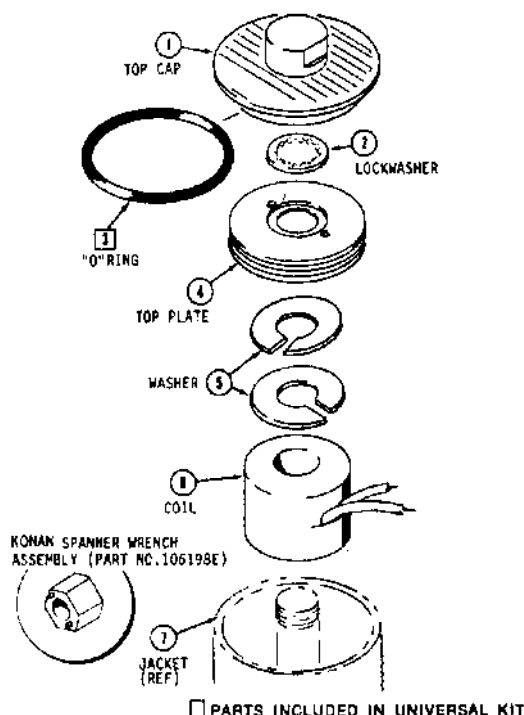

Fig. 3. Typical S212 Model "C" Explosion-proof Operator
**Explosion-proof Model "C"** (last digit of Serial Number). See Fig. 3.
See Fig. 2 for an exploded view of a typical S212 Model "B", and Fig. 3 for a typical S212 Model "C" Explosion-proof operator assembly.